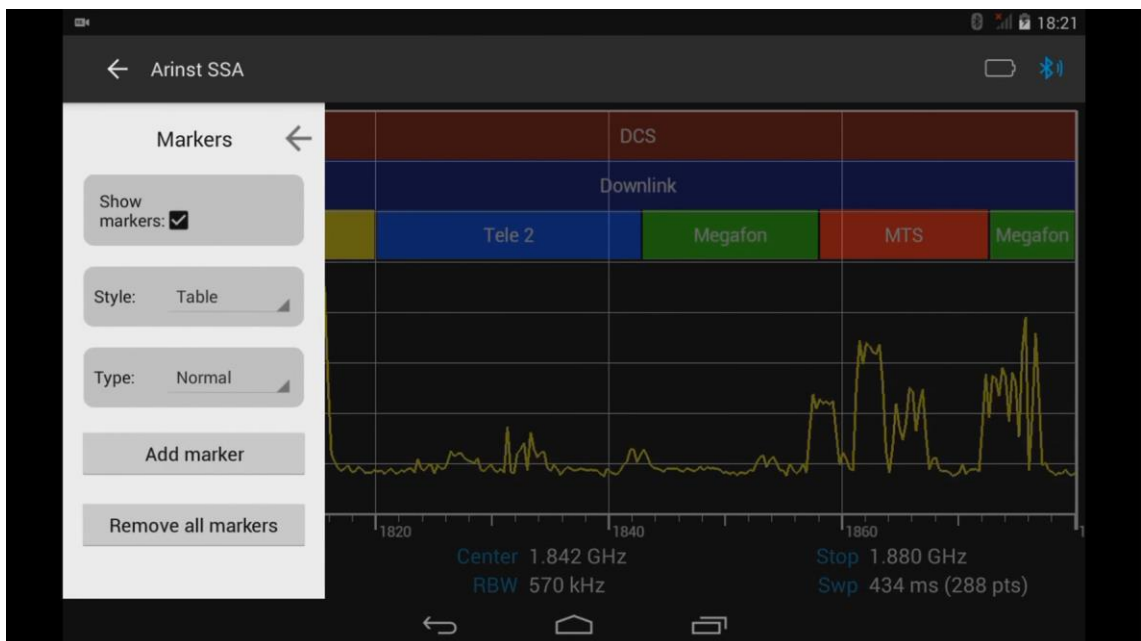

Figure 39 – Menu for selection of marker measurements type
8.7.1. From the main menu of the control program, enter the menu for selecting the marker measurements type **Markers** (figure 39).